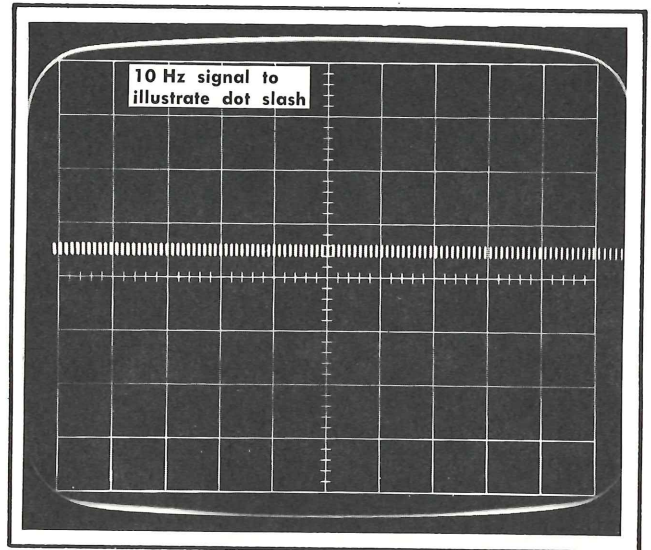

Fig. 5-10. Dot slash check.
d. With the probe unterminated, turn the Trigger Sensitivity fully counterclockwise. Each dot should have a vertical slash ≤ 0.2 division at 50 Hz. If no slash is evident, reduce the frequency of the input signal to 10 Hz. Fig. 5-10 shows the typical 10 Hz dot slash. Check for no dot slash at about 150 Hz. See Fig. 5-10.